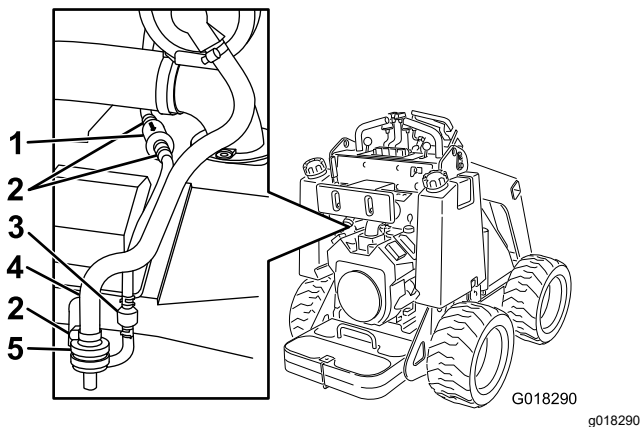

Figure 23
3. Loosen the hose clamp above the carbon-canister air filter (Figure 23).
5. Install a new filter into the hose and secure it with the hose clamp (Figure 23).
3. Move the spring-type hose clamps on both sides of the carbon canister purge-line filter away from the filter (Figure 23).
4. Remove and discard the purge-line filter (Figure 23).
5. Install a new filter into the hose with the arrow on the filter pointing toward the check valve and secure it with the hose clamps (Figure 23).
4. Remove and discard the air filter (Figure 23).